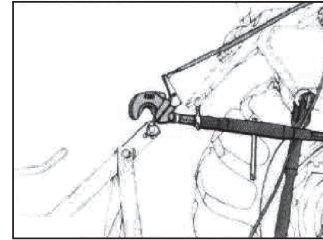

Fig. 4-37
Step C (Fig. 4-37):
- Remove the fixing pins (2).
- Overturn the protective structure (1) until it rests on the stopper.
- Fit the fixing pins (2) and relative nuts as illustrated.
- Before you use the tractor again in any way, set the protective structure (1) back in the upright position (Fig. 4-37) by carrying out the operation described above in reverse order. Fit the fixing pins.